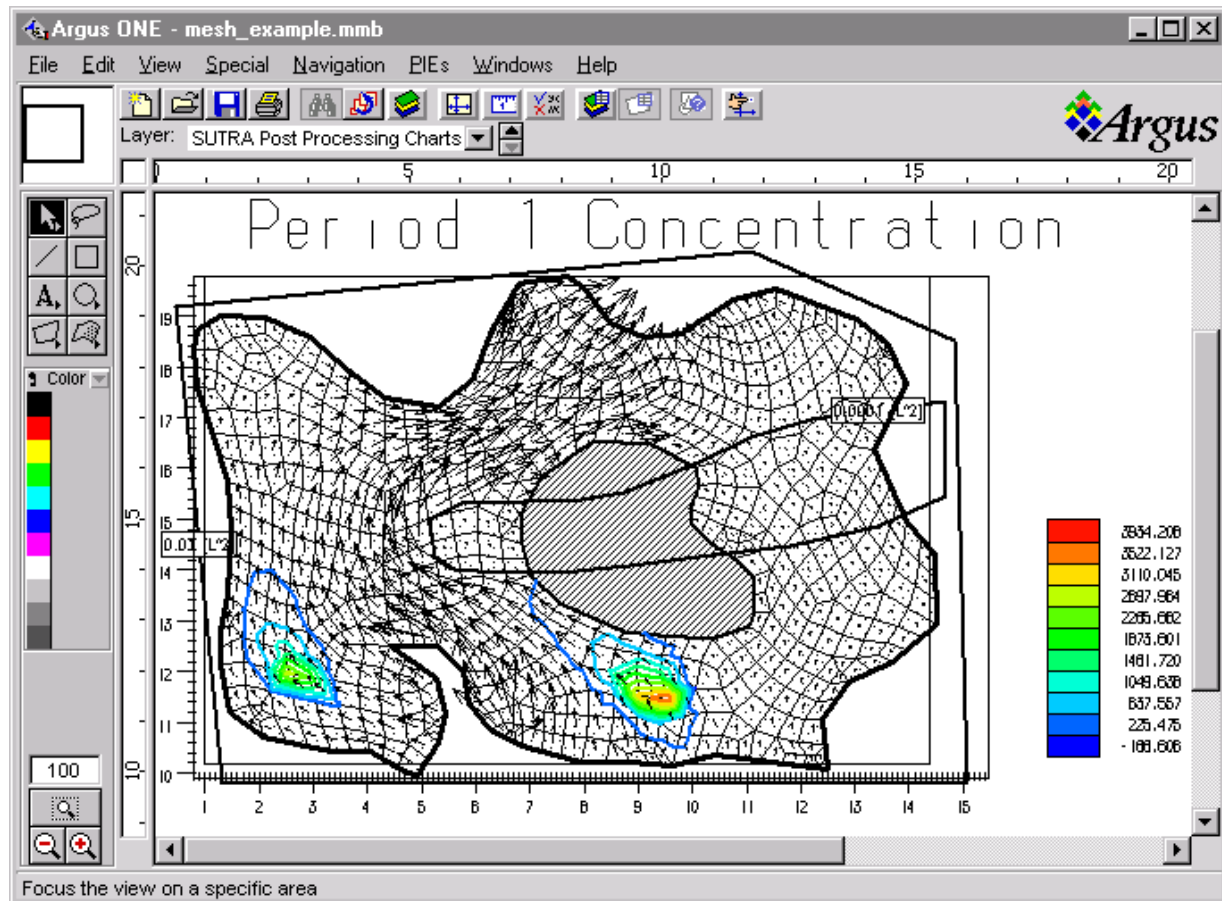

Figure 35. Post-Processing Graphics, Concentration and Velocity, example
- Clicking **OK** exits the window and the chosen contours and/or velocity vectors are plotted in the workspace (Figure 35).